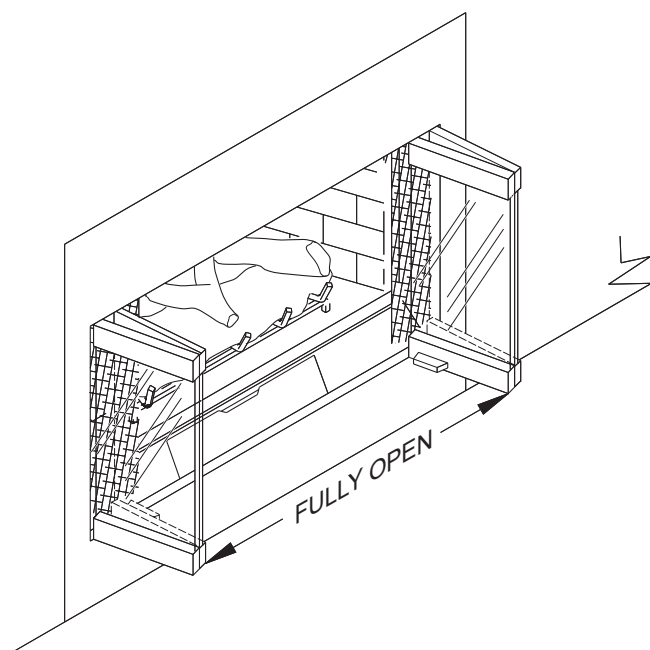

Figure 10: Bi-Fold Doors Fully Open
- Glass doors should be operated in the fully open position only (see Figure 10, page 9).